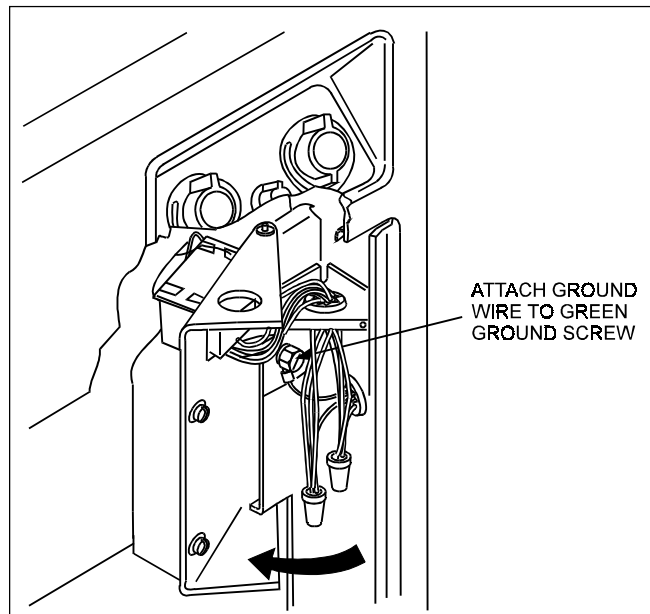

Figure 8. Field Wiring Connections (LD).
- Connect the wires from the power source to the leads on the right side of the heater in the space behind the ignition control (see Figure 8). Be sure to follow the wiring diagram on page 7 to configure the transformer for the correct input voltage.